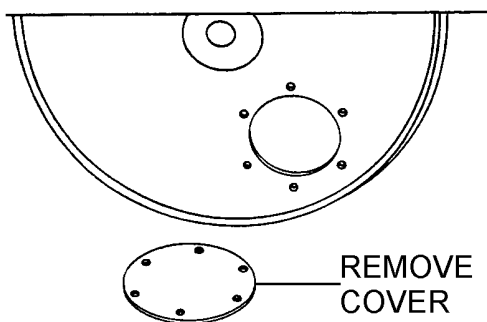

Figure 26. Chain Cover
1. Take off the checking cover on roller and coat grease on the chain if necessary (Figure 26). The chain should be lightly lubricated with motor oil.